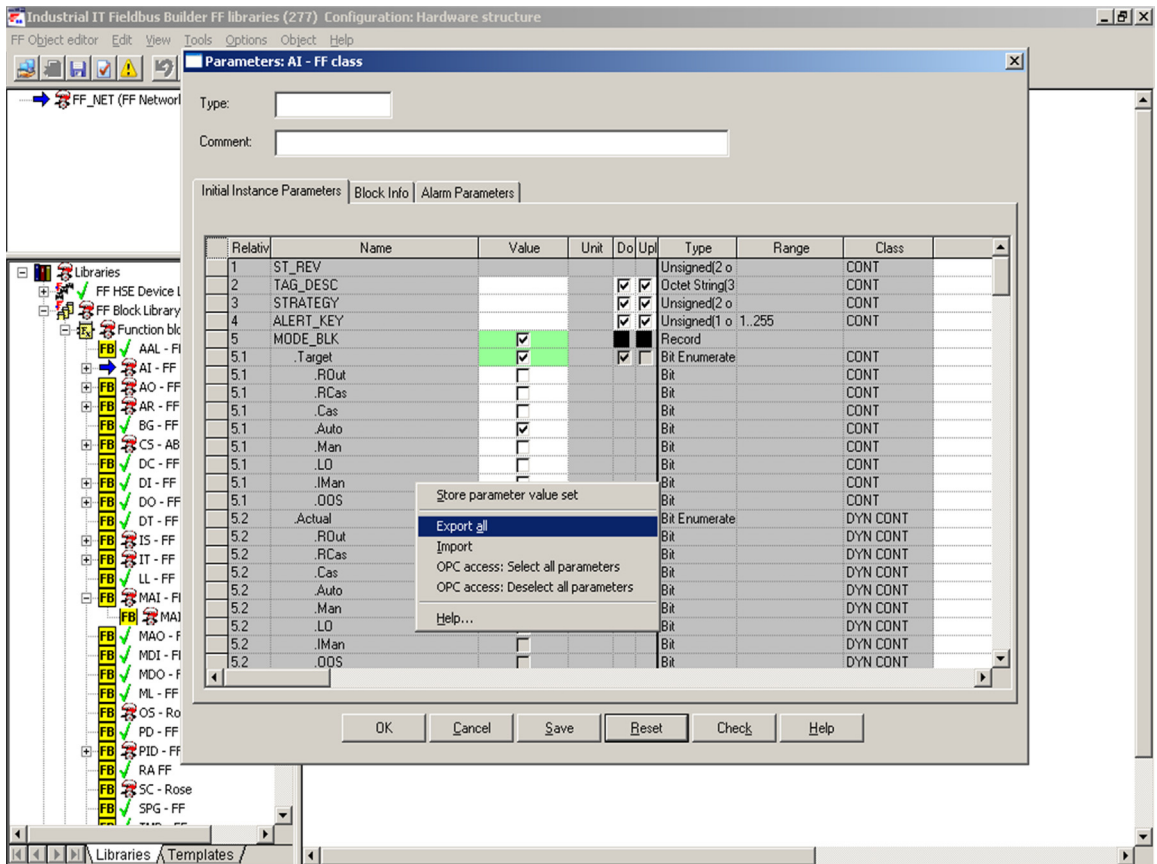

Figure 20. Exporting Locally Stored Parameter Value Sets
- Right-click and select **Export** from the context menu (Figure 20).